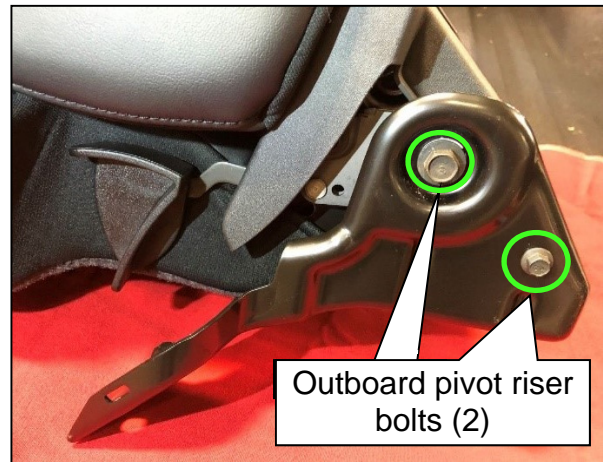

Figure 3
4. Remove the two (2) outboard pivot riser bolts, and then remove the outboard pivot riser (Figure 3).